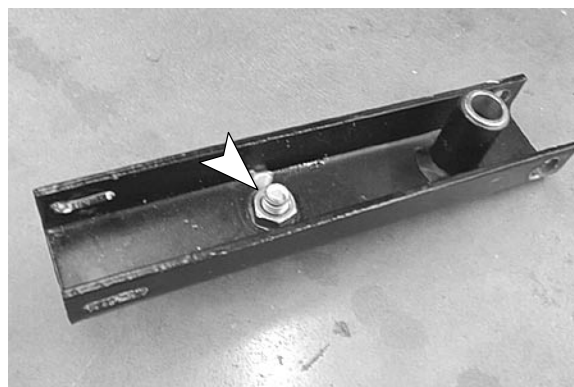

Fig. 20
8. Remove nut and screw from squeegee pivot bracket and discard, two 3/4" wrenches required (Figure 20).